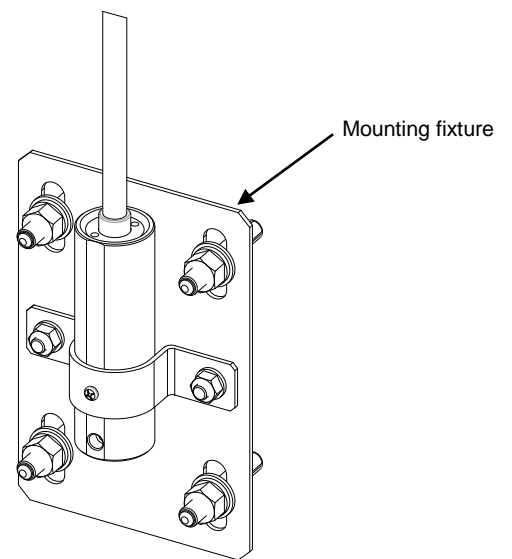

Fig. 2-5 Example of installing a Pressure Level Gauge (Option: Mounting Fixture)
- Please install the Pressure Level Gauge using a mounting fixture (Option) to prevent it from flowing into the water flow. An example of installation is shown in Fig. 2-5.